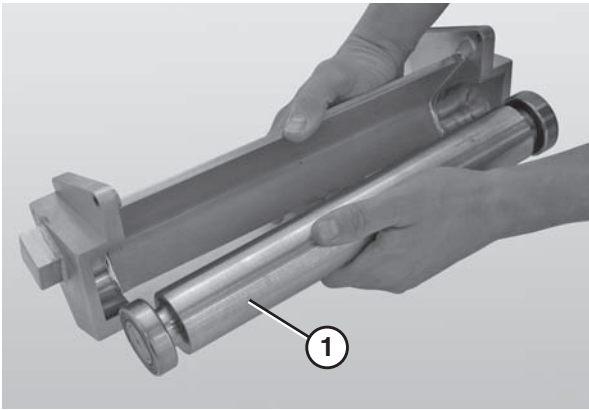

Figure 73
6. Remove the nose bar return spindle (Figure 73, item 1).